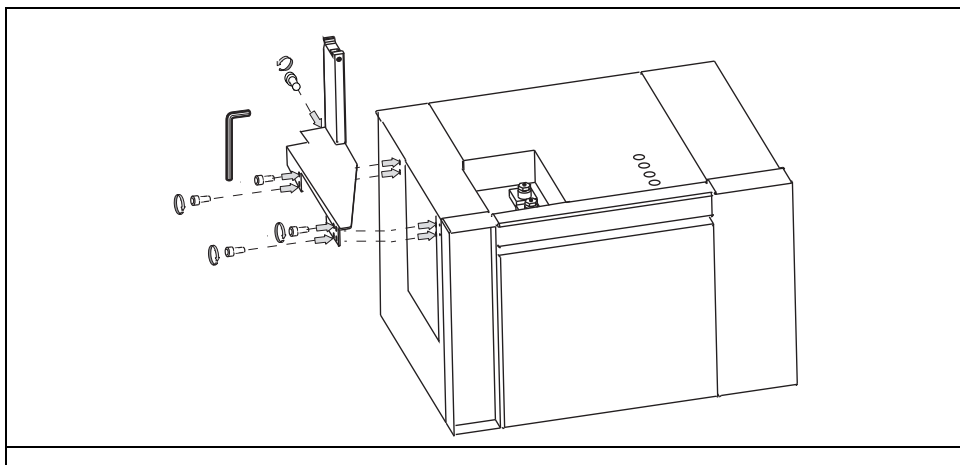

Figure 4-2. Left Sampler Support Installation on an Agilent 5890 GC (1)
2. Mount the left sampler support on the GC left side as shown in Figure 4-2.